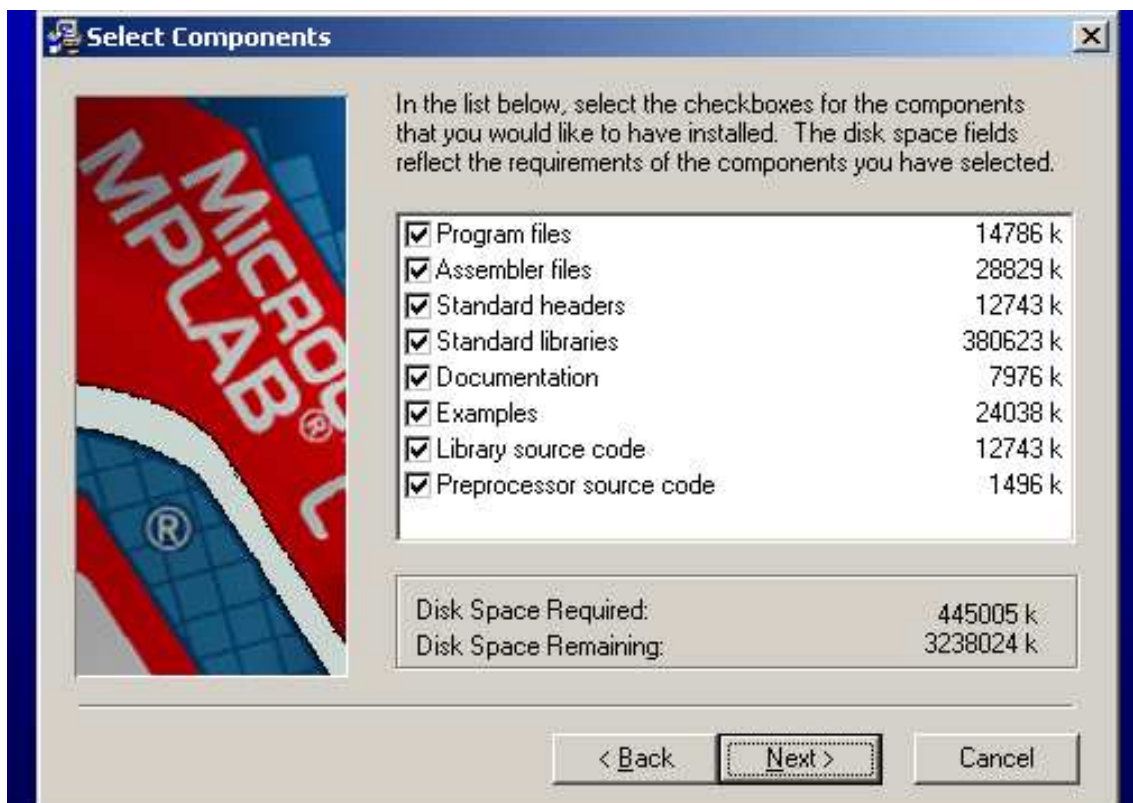

Figure 3: Installation of C18 Compiler, assigning the components to be installed
- 3) Select all the options as in Figure 3: